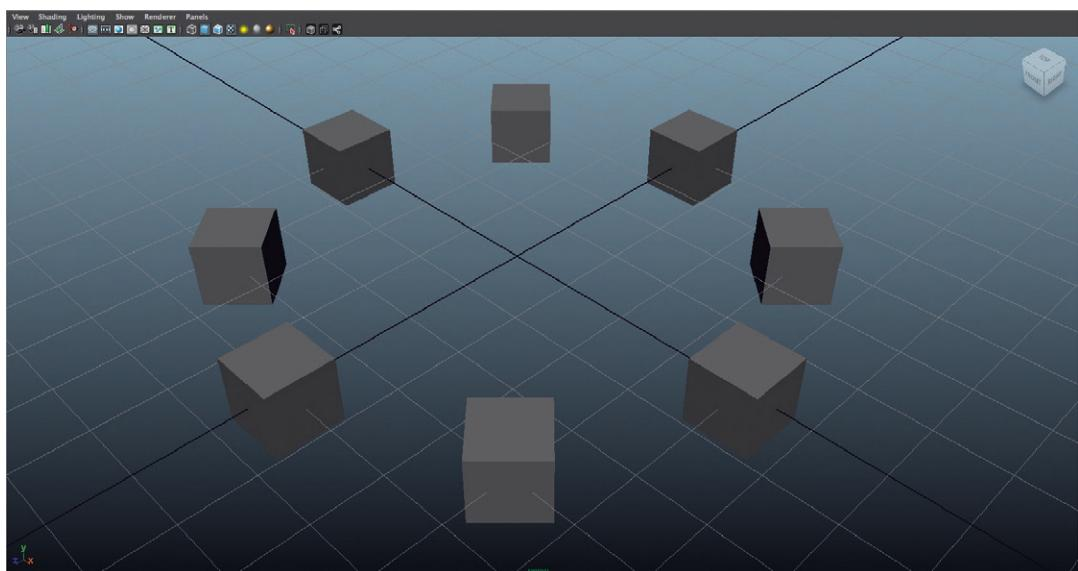

FIG 2.14 Multiple cubes. The exact number and placement isn't important. We just want a few cubes that aren't overlapping sitting around.
- Step 12: Repeat the last two steps a few times so that you have six to ten cubes (Fig. 2.14).